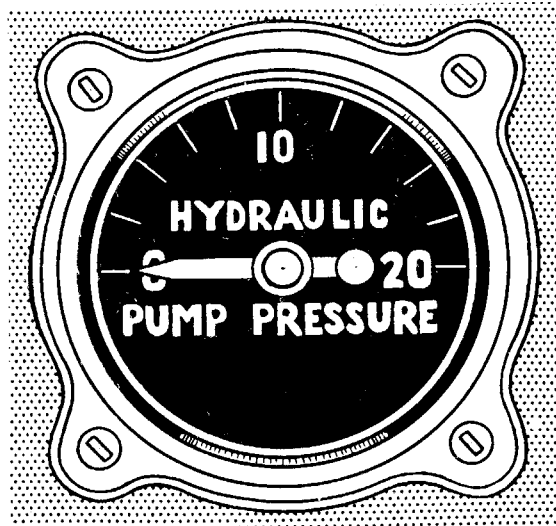

Figure 27 — Hydraulic Pump Pressure Gage
(2) **ENGINE DRIVEN PUMP PRESSURE GAUGE.**—This is the left hand gauge on the panel between the rudder pedals (see figure 27). It registers only